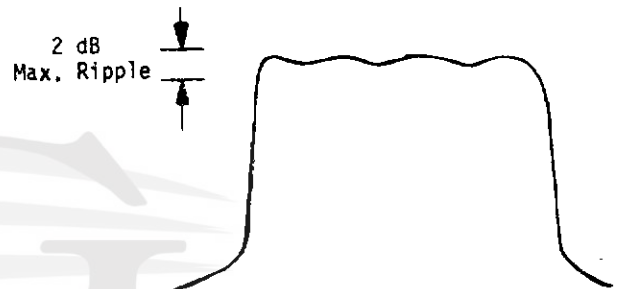

Figure 4-6. IF Response
- d) Turn unit ON, and adjust T101 and T102 for a bandpass response similar to Figure 4-6. Ripple should be NOT MORE than 2 dB, and is generally 1 dB or less.